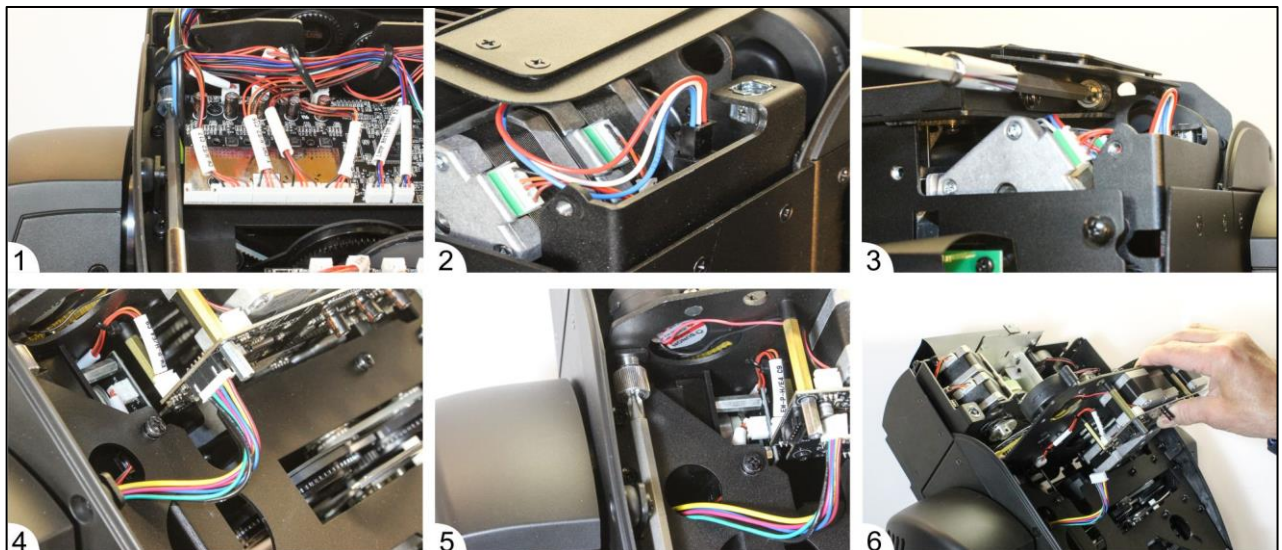

Figure 7-4: Removing the gobo module
Remove the gobo module as described below and shown in Figure 7-4:
2. On the top side of the head, loosen the captive thumb screws on each side of the gobo module (Figure 7-4 panel 1).